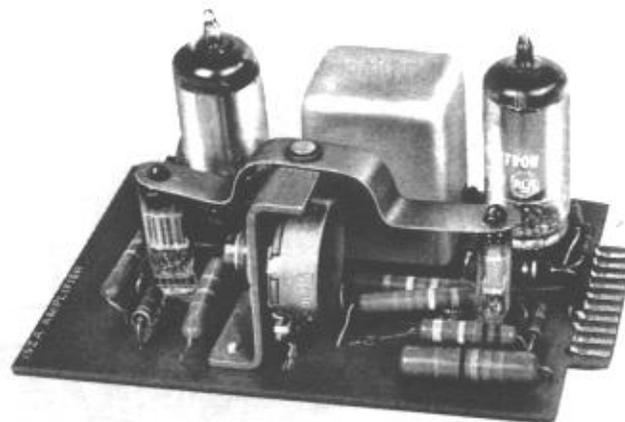
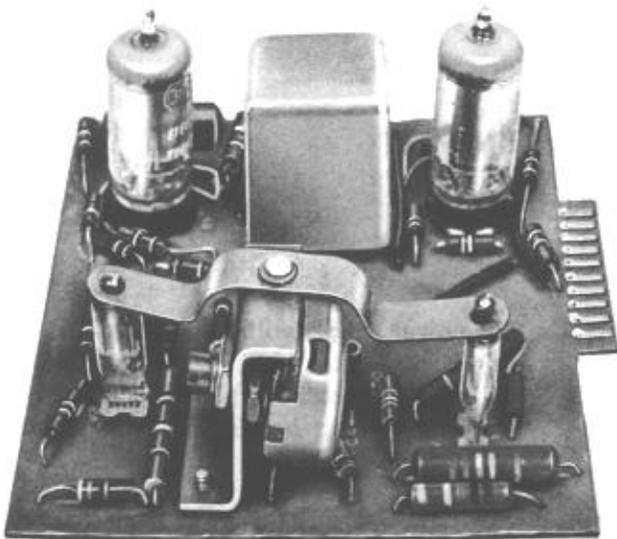

Fig. 1 — 152A Amplifier, Early Type
Fig. 2 - 152A Amplifier, Later Type
- On early type sets the amplifier will be similar to that shown in Fig. 1 but will not have a code number stamped on the card. (See Fig. 7 for circuit schematic.)
- On standard sets initial production will be equipped with the type amplifier shown in Fig. 1. The card will be stamped as shown. (See Fig. 8 for circuit schematic.) Later production sets will be equipped with the type amplifier shown in Fig. 2. The center of the card will be stamped 152A AMPLIFIER. (See Fig. 9 for circuit schematic.)